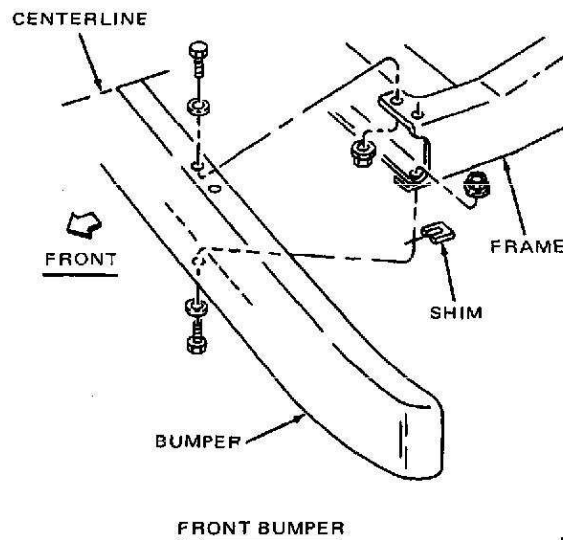

Figure 2-93. Front Bumper Assembly.
- a. Removing the Front Bumper. Refer to figure 2-93.